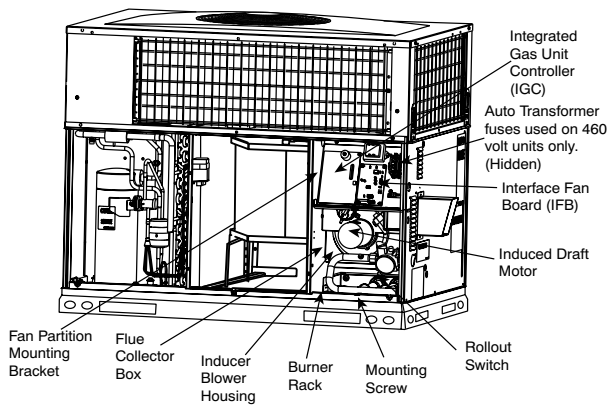
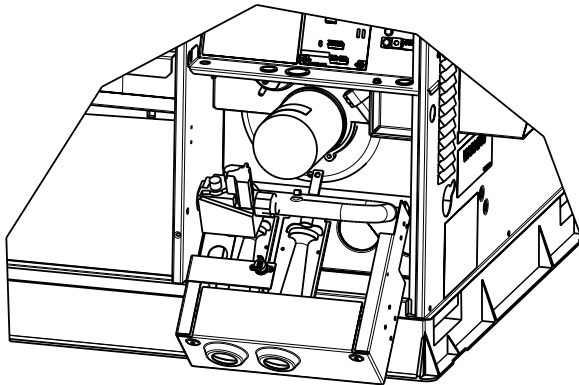

Fig. 17 – Blower Housing and Flue Collector Box
Fig. 20 – Burner Rack Removed
2. Remove the 11 screws holding the flue collector box cover (See Fig. 17) to the heat exchanger assembly. Inspect the heat exchangers.
Unit is equipped with a direct spark ignition 100 percent lockout system. Ignition module (IGC) is located in the control box (See Fig. 17). Module contains a self-diagnostic LED. During servicing, refer to label diagram or Table 5 in these instructions for LED interpretation.
5. Remove fan partition mounting bracket (2 screws located on the left side of control compartment on the fan partition panel). Slide bracket forward, bottom first to remove. (See Fig. 17).
8. Remove the mounting screw that attaches the burner rack to the unit base (See Fig. 17).
9. Slide the burner rack out of the unit (See Fig. 17 and Fig. 20).